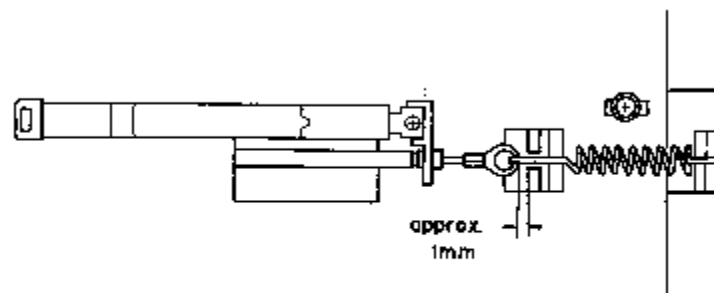

Fig. 4.24.2
- (3) Set the N-660ZX in record and pause mode. Check to insure that the gap between the top of the wire and the Record Spring Holder is approximate. 1 mm as shown in Fig. 4.24.2. (Check that the Record Switch is in Record position.)
- (4) Upon completion of the above adjustments, apply a quantity of lock light paint.